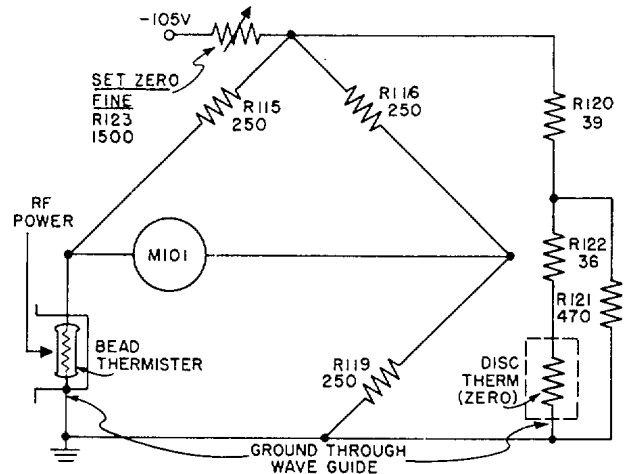

Figure 2-27. Thermistor Bridge Circuit Showing Voltage Compensation
(See figure 2-27.)
(6) HIGH SENSITIVITY. --The thermistor bridge is used as the frequency meter indicator as explained in par. 2c(2). When measuring the frequency of short RF pulses, however, the meter deflection is not sufficient to give a good indication. Therefore, a momentary switch (S103) is provided that eliminates the sensitivity compensation and thus increases the meter deflection by about 4 times. The circuit for this position of S103 (HIGH SENS) is as shown in figure 2-27. S103 is a momentary switch to insure that excessive power is not applied to the bridge while the sensitivity